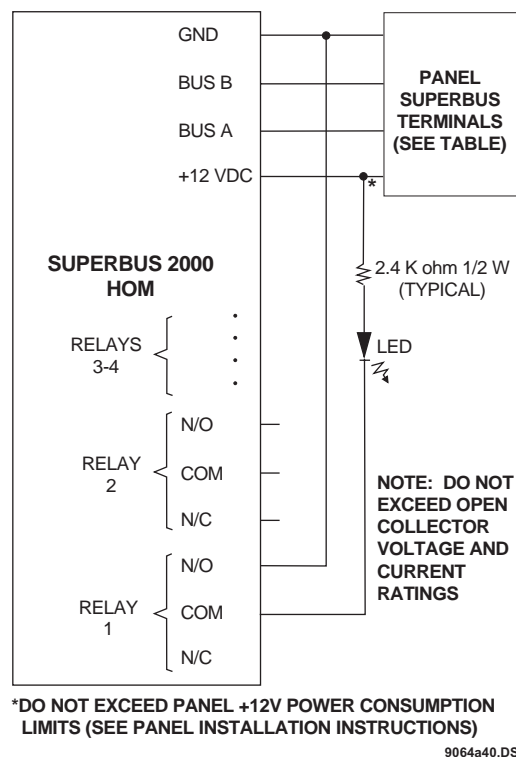

Figure 8. Connecting an LED Indicator to the HOM
2. Wire the HOM module to the panel (see Table 2 and Figure 8).